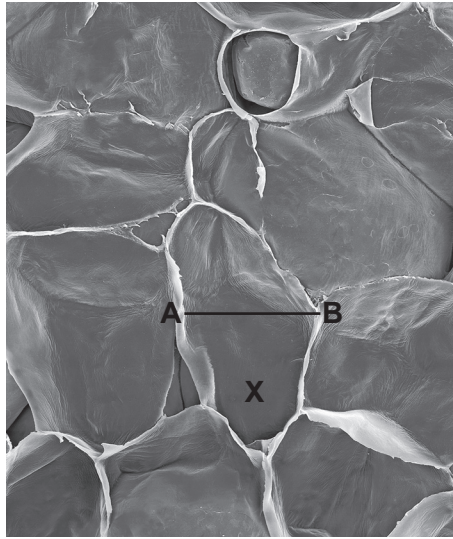

Fig. 1.2
(c) Fig. 1.2 shows some cells in apple puree.
- (ii) The cells in Fig. 1.2 are magnified $\times 160$.